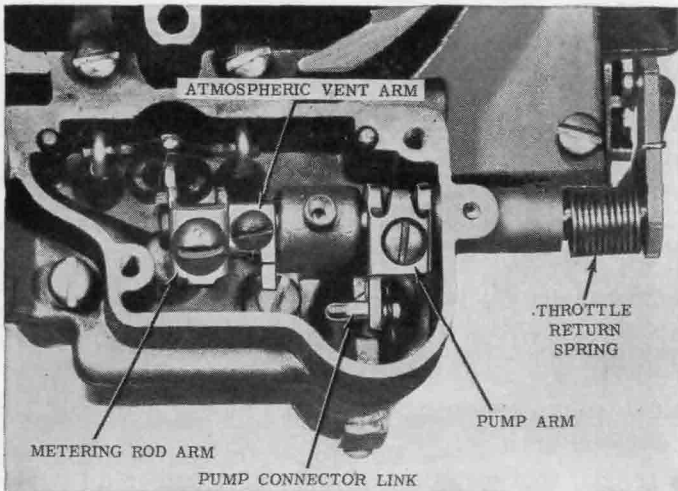

FIG. 10-42. Various parts located in the metering-rod housing. (Oldsmobile Division of General Motors Corporation)
- e. Slide upper end of pump connector link from pump arm (see Fig. 10-42), and rotate link around lever so link can be removed.
- f. Loosen screw holding pump arm to shaft. Remove atmospheric vent arm (vapor-vent arm) by taking out screw. Loosen metering-rod-arm screw. (See Fig. 10-42 for location of these screws.)